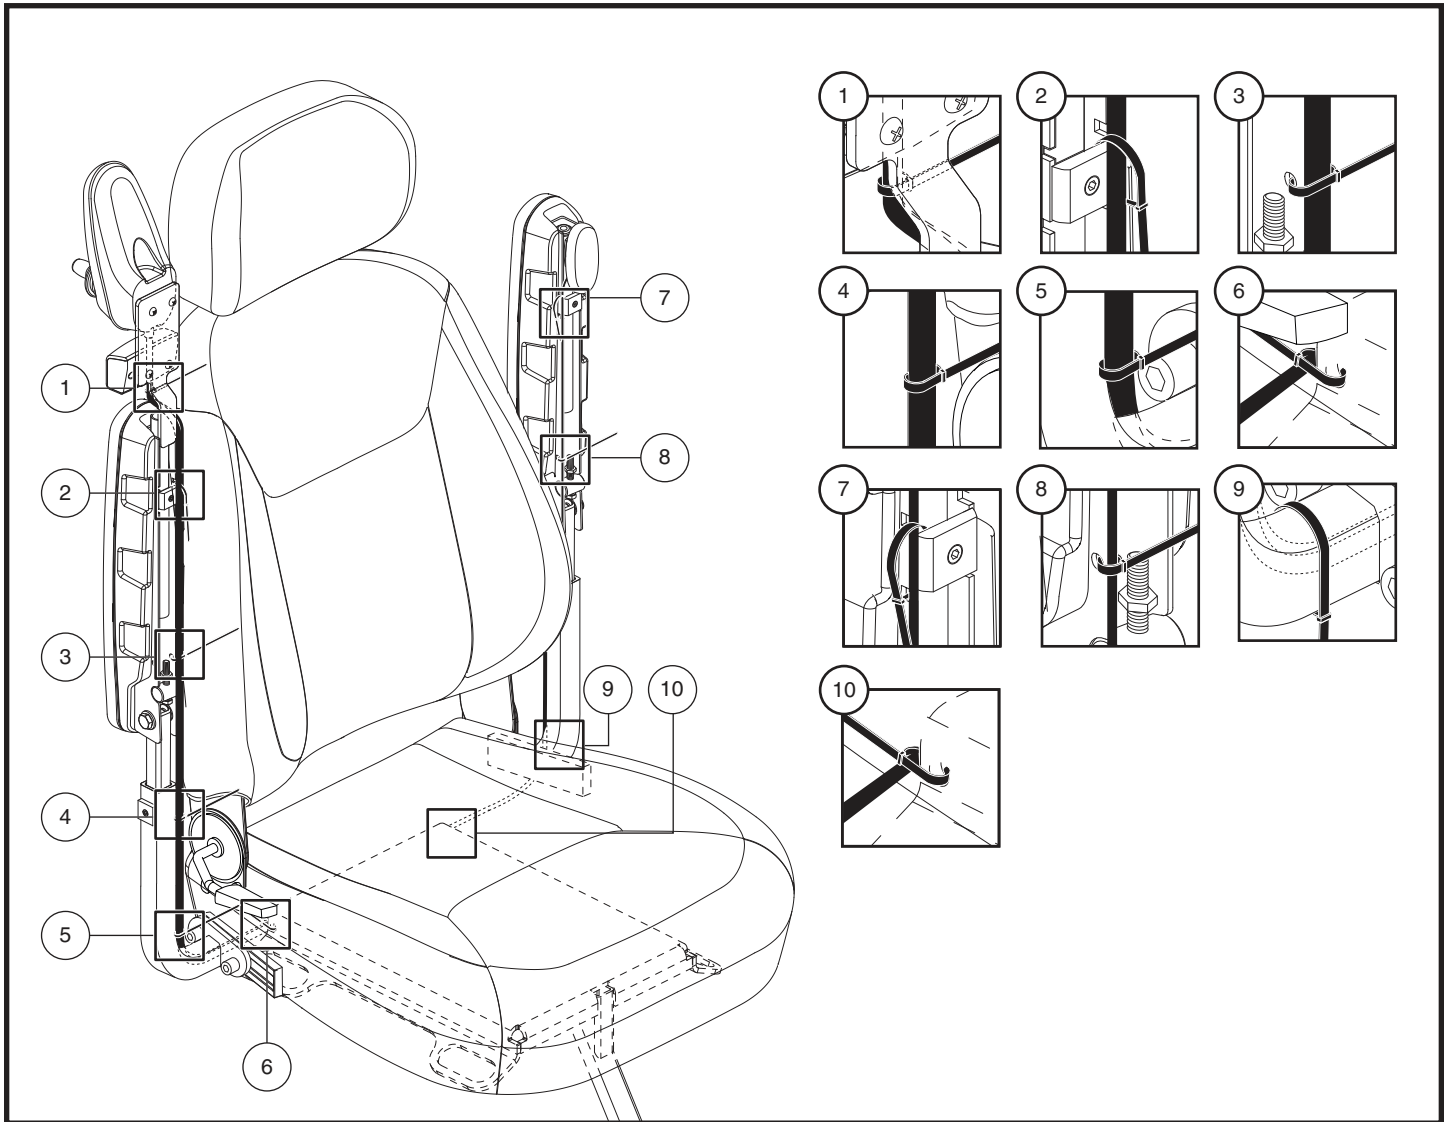

Figure 10. Controller Harness Routing
17. Secure the harnesses on the armrest with the supplied wire-ties as shown in **figure 10**.
19. Secure the harnesses along the armrest receiver and seat plate with supplied wire-ties as shown in **figure 10**.
WARNING! Ensure that all harnesses are properly routed as shown in figure 10. Improper routing can cause damage to the light switch, controller or other electrical components.
2. For locations 1 through 10, tighten the wire-ties into place according to the proper harness routing as shown in figure 10.
9. Route the controller harness along the seat frame and secure with wire ties. **See figure 10.**